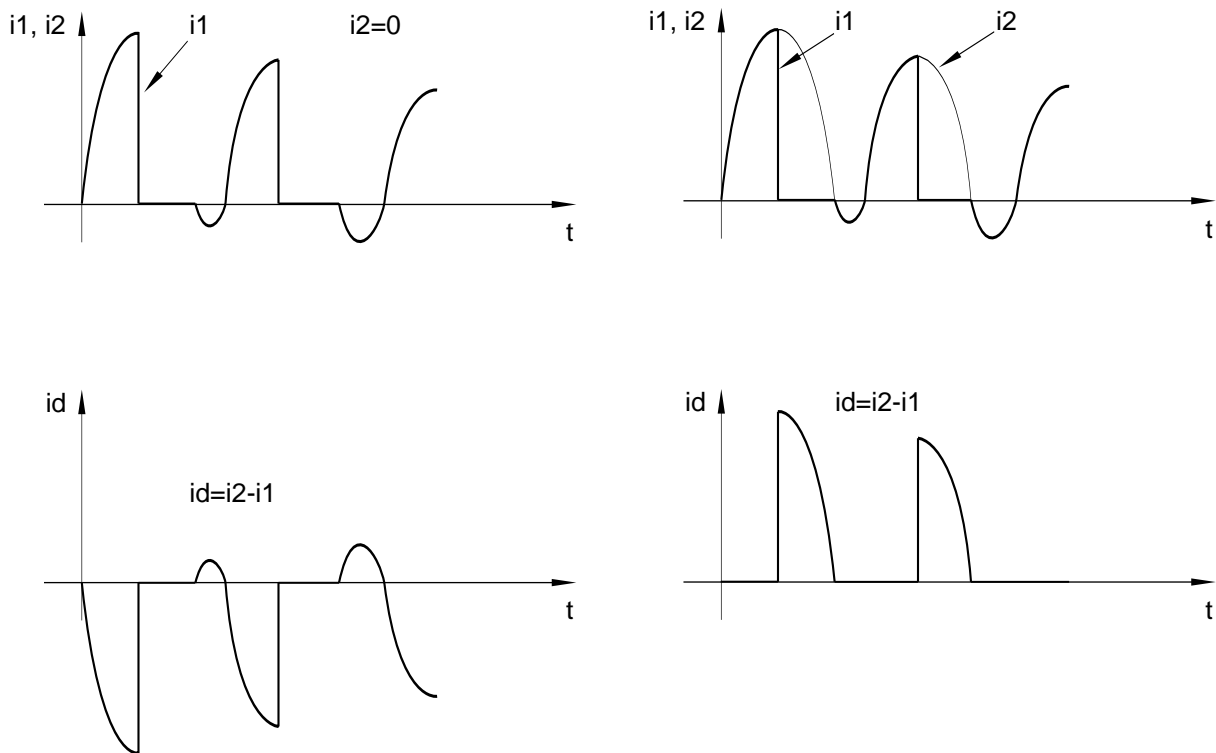

Figure 3.3: Current comparison with C.T.s saturated by DC offset in fault current wave form
Figure 3.3 shows the differential measurement on the example of extremely dissimilar saturation of C.T.s in a differential scheme. Fig. 3.3 shows the secondary current due to C.T. saturation during an transformer fault (internal fault). The differential current  $i_d$  represents the fault current. The differential relay must trip instantaneously.
Fig. 3.3 shows the two secondary currents in the instant of an heavy external fault, with current  $i_1$  supposed to C.T. saturation, current  $i_2$  without C.T. saturation.
- $i_1$  = as in fig. 3.3 for an internal fault